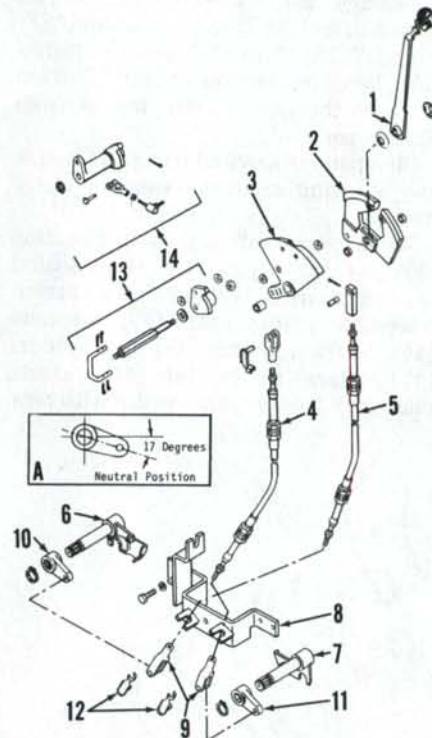

Fig. 173—Exploded view of four-speed gear transmission shift linkage used on Models 2390, 2590, 2394 and 2594.
154. SHIFT LINKAGE. To adjust the four-speed gear transmission shift linkage, disconnect control cable yokes (9—Fig. 173) from levers (10 and 11). Place shift quadrants (2 and 3) in neutral position, then place shift levers (10 and 11) in neutral position (17 degrees below horizontal as shown in inset A—Fig. 173). Adjust position of cable yokes (9) so that holes align with shift lever holes. Install yoke clip pins (12). Quadrant slots should be closely aligned.
Shims (12) are 0.005 inch (0.127 mm) thick and provide clearance between shifter shafts lugs for neutral switch and housing. If lugs contact boss on housing, add shims until clearance exists. Apply Lubriplate to lips of seals (10) and install flush with housing bores with lip to inside. If neutral start switch (or switches) was removed, be sure to install same number of shims (5) that were removed. Place transmission in neutral and install shifter housing (11) with new gasket and dowel bushing (2). Be sure the shanks on shifter forks engage notches in lugs on shifter shafts when housing is installed. Tighten cap screws to 17-20 ft.-lbs. (23-27 N·m) torque. Align the previously affixed punch marks and install shift levers pointing forward and downward at 17 degrees below horizontal as shown in Fig. 173 and install snap rings. Check and adjust neutral start switches as outlined in paragraph 155.